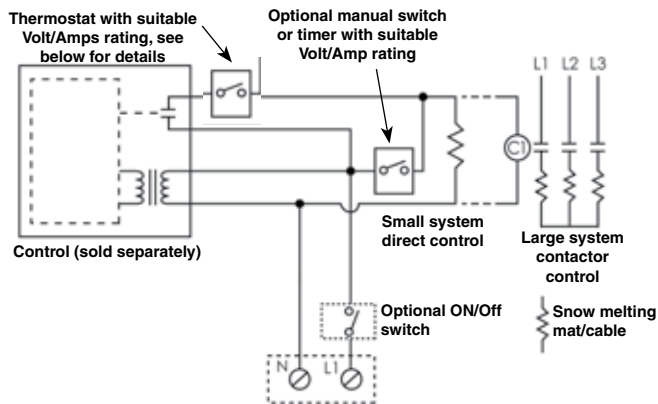

Figure 4 Sno*Melter Systems Typical Wiring Diagram
- All installations 56-75 W/sq ft require a high limit Listed or Certified thermostat, set at maximum 5°C, see figure 4 for installation details